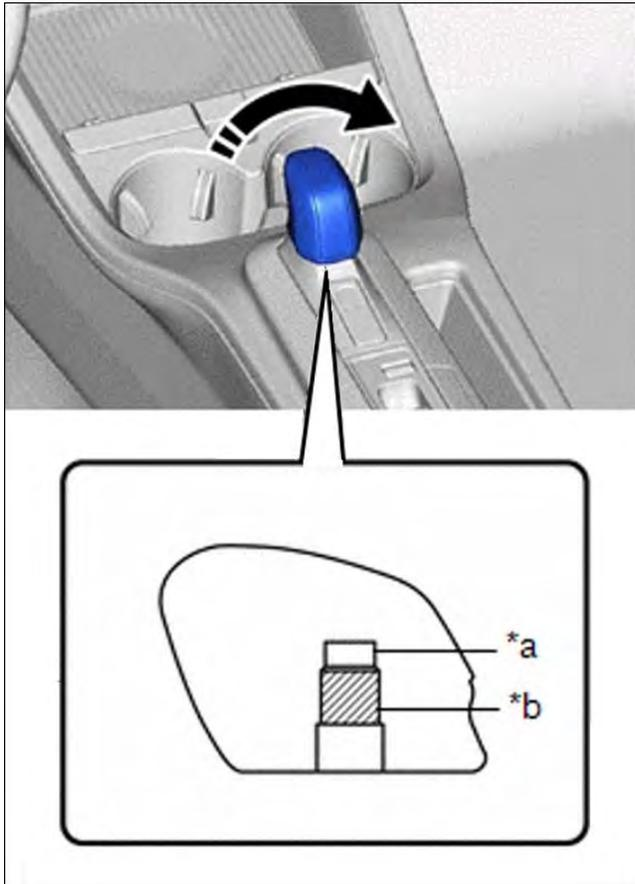

Figure 61
- (b) Turn the shift lever knob sub-assembly clockwise an additional 360° or more to install it, as shown in Figure 61.
- (c) Tighten the shift lever knob sub-assembly until it is aligned with the longitudinal direction of the vehicle, as shown in Figure 61.